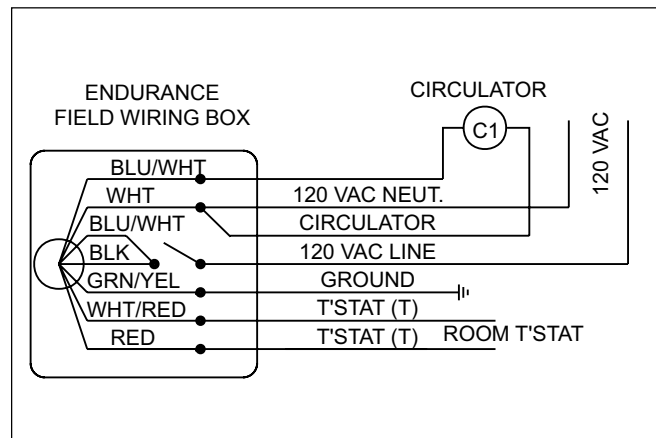

Figure 25. Single Zone with Added Circulator(s) and Room Thermostat(s).
2. For single zone installations: (If external pump is required, e.g., because of large system pressure drop) connect room thermostat wires to the red and white/red wires. Connect circulator (120 volt, 5 amps maximum) between the blue wire and the white wire (neutral) (see Figure 25). Note that the blue/white pump wire connects to a dry contact.